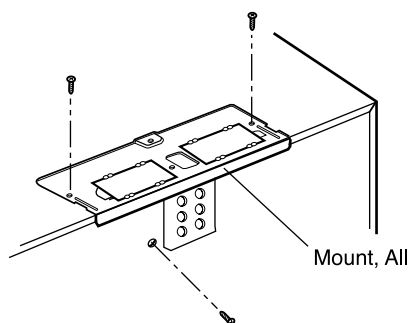

Figure 17
- (2) Remove the two screws securing the MOUNT, ALL and one screw securing the ventilation fan ASS'Y. (See Figure 17)